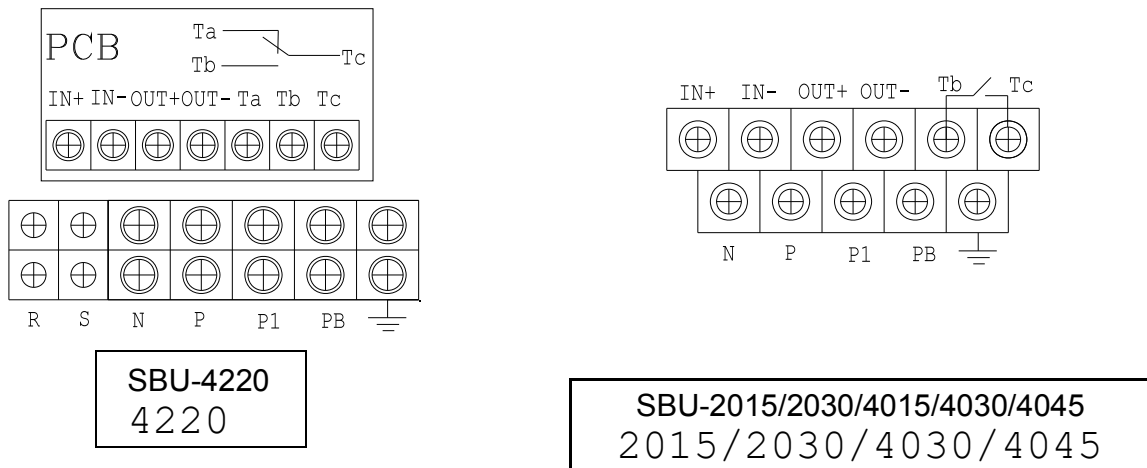

Figure 7 – Terminal Arrangement
2. Check that the connections are correct before you connect to the power supply. Refer to the wiring diagram in Figure 4 for the necessary connections for P and N, and recommended use of fault alarm functions. The terminal arrangement is shown in Figure 7.